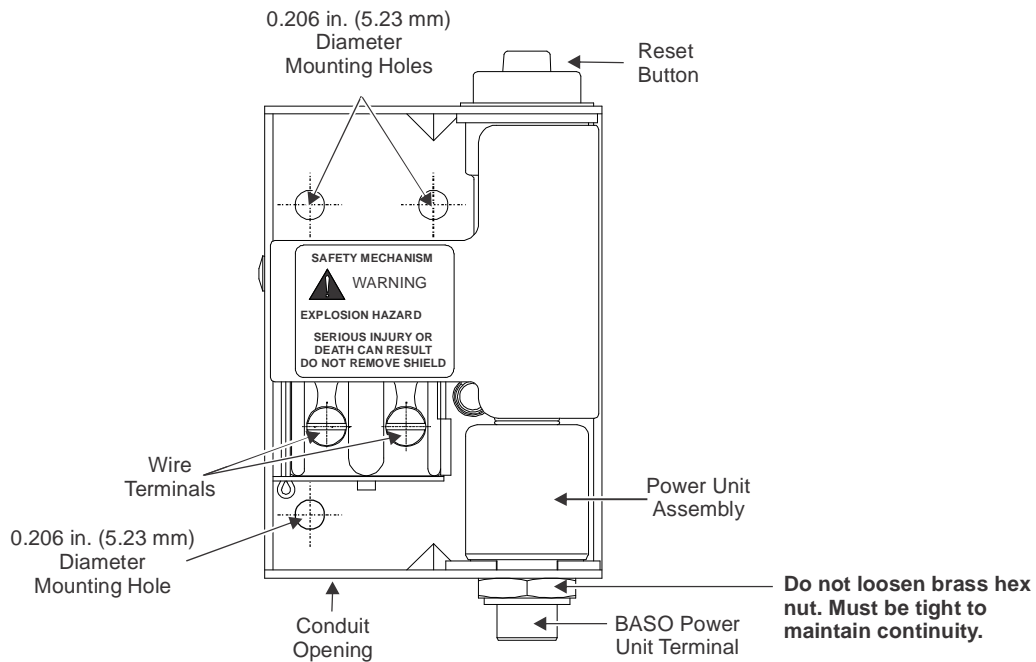
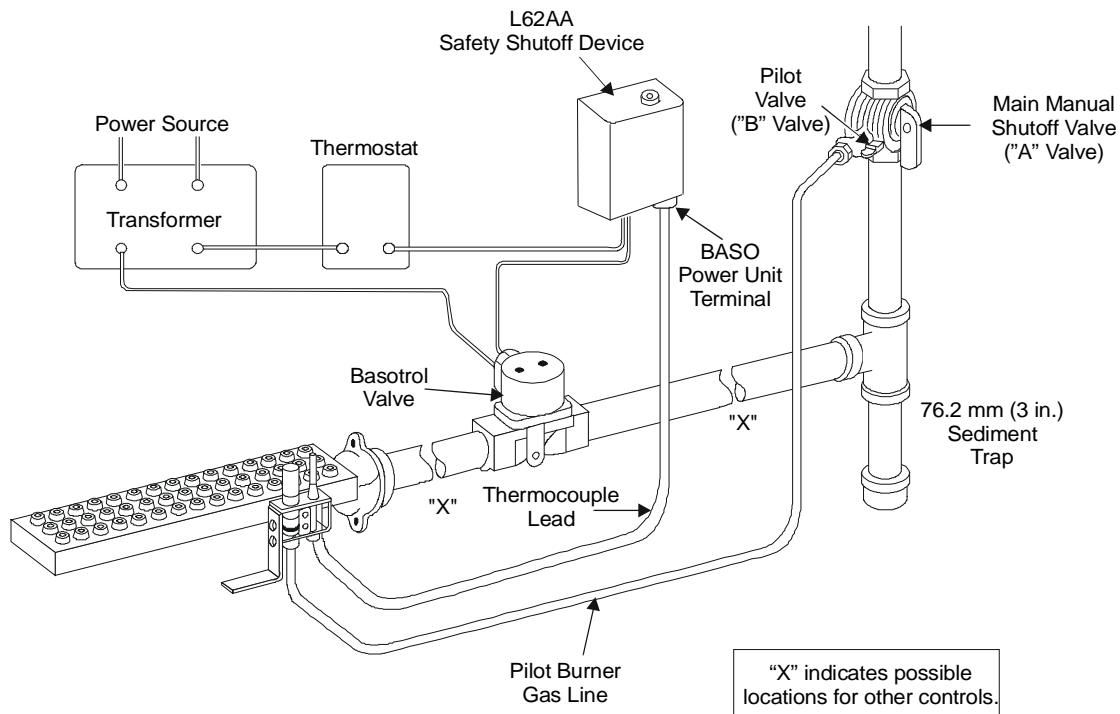

Figure 1: View of the L62AA Without the Cover
Figure 2: Typical L62AA Installation
4. Mount the L62AA in any convenient position using the mounting holes provided. See Figure 1 for mounting hole locations.
5. Push the circuit wires through the conduit opening on the bottom of the L62AA, strip the ends of the wires just enough to put the bare wire under the terminal screws, and attach them to the two wire terminals (see Figure 1).
7. Attach the thermocouple securely to the pilot burner, and screw the terminal end to the BASO power unit terminal on the L62AA (see Figure 1 and Figure 2). Make sure that this connection is clean. Tighten the thermocouple lead nut finger tight plus a maximum of 1/8 turn. **Do not overtighten.**
3. Close the main manual shutoff valve ("A" valve) and the pilot valve ("B" valve [see Figure 2]) and wait at least five minutes for unburned gas to escape from the appliance.